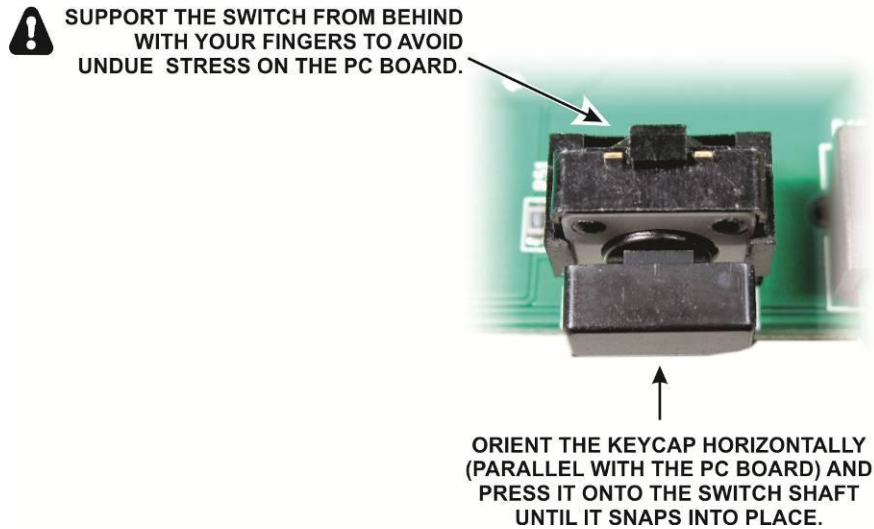

Figure 30. Installing Key Caps on the Switches.
□ On the edge of the pc board that has the rows of LEDs, install key caps on the three switches (S1, S2 and S3) as shown in Figure 30. Be sure you orient the key caps horizontally (parallel with the pc board).